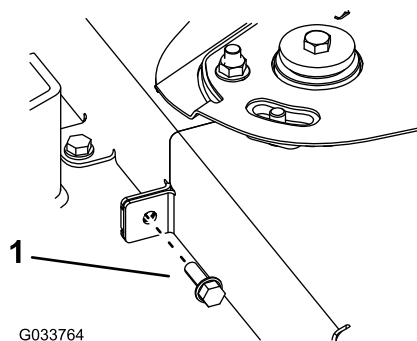

Figure 64
4. Remove the bolt connecting the 2 belt covers (Figure 64).
9. Install the bolt to connect the 2 belt covers (Figure 64).